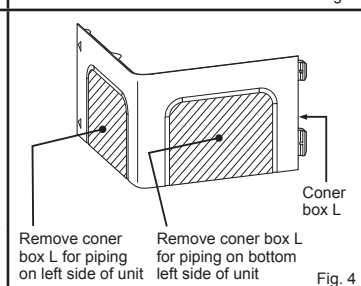

Fig. 4
- 10) According to the piping direction, remove the shaded part of the corner box L (Fig. 4) or corner box R (Fig. 5). Reinstall electrical cover, corner box R and front panel.
- Insert the drain hose fully into the drain pan at the back right of the indoor unit. (Fig. 4)
- Insert the drain hose into wall hole sleeve (C), and attach the upper part of indoor unit onto the installation plate (1). Then, shift the indoor unit completely to the left to make placing the piping in the back of the unit easier.
- 4) Flaring work (Fig. 4, 5). Firmly hold copper pipe in the dimension shown in the table. Select A inch (mm) from the table according to the tool you use.